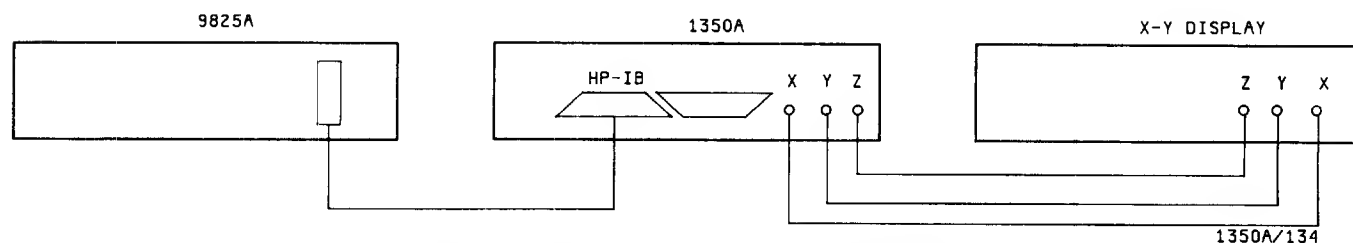

Figure 4-1. Performance Verification Test Setup
- c. Connect HP-IB cable from 9825A to rear of 1350A and secure. Equipment should now be as shown in figure 4-1.